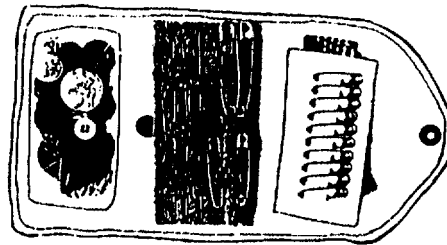

Figure 2-50. Sewing Kit
- ab. **Sewing Kit.** The sewing kit (See Figure 2-50) is used to repair torn clothing, or to perform first aid or suturing, as a last resort.